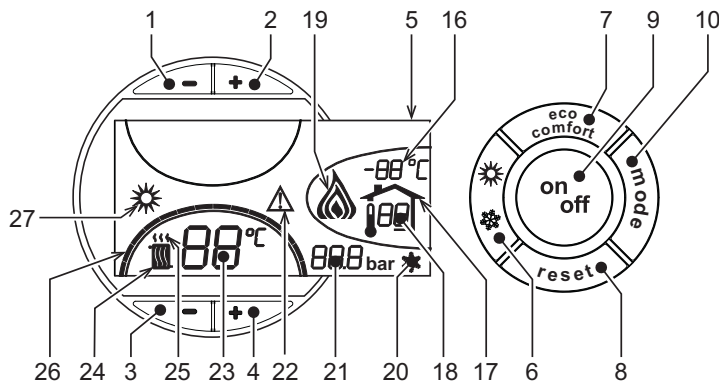
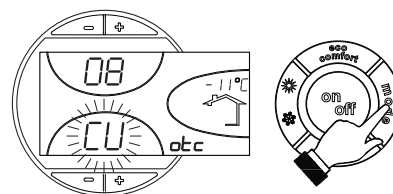
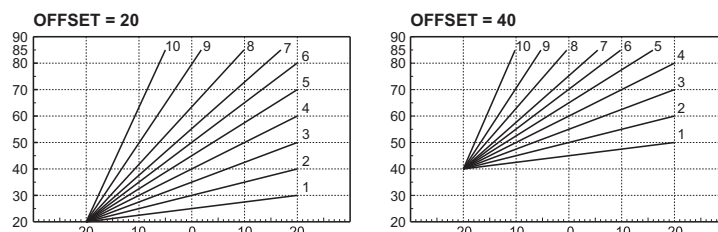

fig. 1 - Control panel
fig. 9 - Compensation curve
fig. 12 - Example of compensation parallel curve offset
Press the **on/off** button (detail 9 - fig. 1) for 1 second.
To relight the boiler, press the **on/off** button (detail 9 fig. 1) again for 1 second.
- Press the ON/OFF button (9 - fig. 1)
Press the **summer/winter** button (detail 6 - fig. 1) for 1 second.
The display activates the Summer symbol (detail 27 - fig. 1): the boiler will only deliver domestic hot water. The antifreeze system remains activated.
To deactivate the Summer mode, press the **summer/winter** button (part. 6 - fig. 1) again for 1 second.
Use the **heating** buttons (details 3 and 4 - fig. 1) to adjust the temperature from a min. of 30°C to a max. of 80°C.
Use the DHW buttons +/- (details 1 and 2 - fig. 1) to adjust the temperature from a min. of 10°C to a max. of 65°C.
When the optional external probe is installed the control panel display (detail 5 - fig. 1) shows the actual outside temperature read by the probe. The boiler control system operates with "Sliding Temperature". In this mode, the temperature of the heating system is adjusted according the outside weather conditions, in order to ensure high comfort and energy saving throughout the year. In particular, as the outside temperature increases, the system delivery temperature is decreased according to a specific "compensation curve".
With Sliding Temperature adjustment, the temperature set with the heating buttons +/- (details 3 and 4 - fig. 1) becomes the maximum system delivery temperature. It is advisable to set a maximum value to allow system adjustment throughout its useful operating range.
Press the **mode** button (detail 10 - fig. 1) once to display the actual compensation curve (fig. 9), which can be modified with the **DHW** buttons (details 1 and 2 - fig. 1).
Press the **heating** buttons (details 3 and 4 - fig. 1) to access parallel curve offset (fig. 12), modifiable with the **DHW** buttons (details 1 and 2 - fig. 1).
Press the **mode** button (detail 10 - fig. 1) again to exit parallel curve adjustment mode.
If the Remote Timer Control (optional) is connected to the boiler, the above adjustments are managed according to that given in table 1. Also, the control panel display (detail 5 - fig. 1) shows the actual room temperature detected by the Remote Timer Control.
Eco/Comfort selection	On disabling DHW from the Remote Timer Control menu, the boiler selects the Economy mode. In this condition, the button 7 - fig. 1 on the boiler panel is disabled.
On enabling DHW from the Remote Timer Control menu, the boiler selects the Comfort mode. In this condition it is possible select one of the two modes with the button 7 - fig. 1 on the boiler panel.